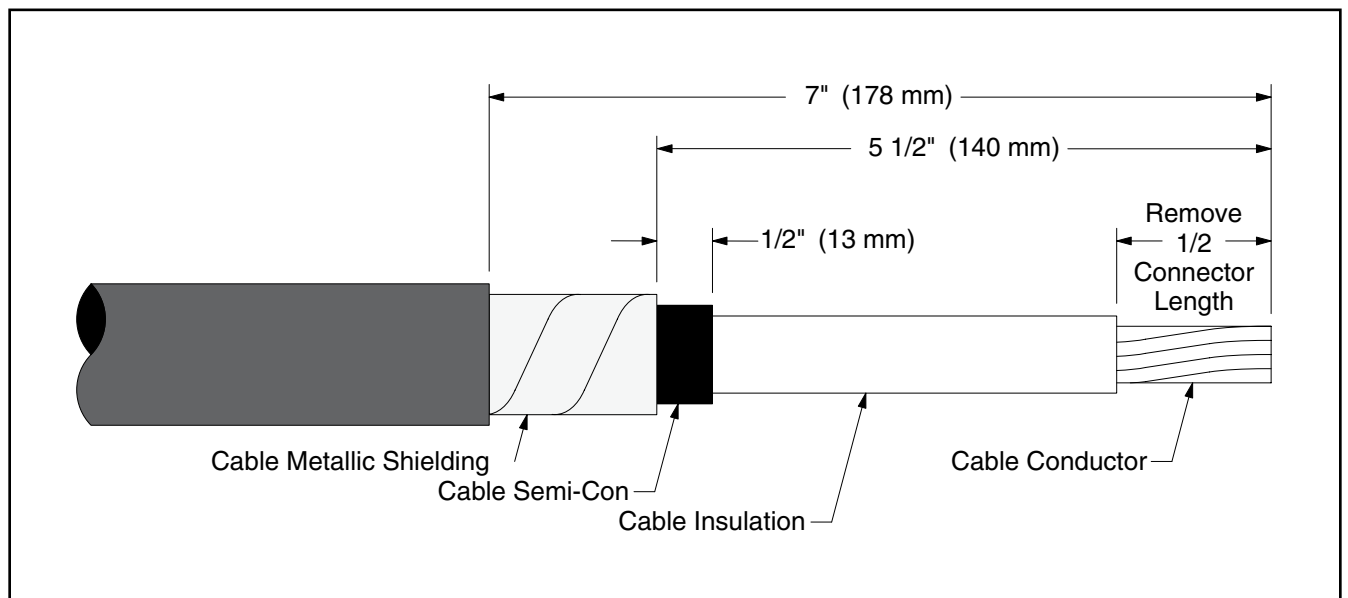

Figure 2
- a. Remove jacket a distance of 7" (178 mm) (*Figure 2*).